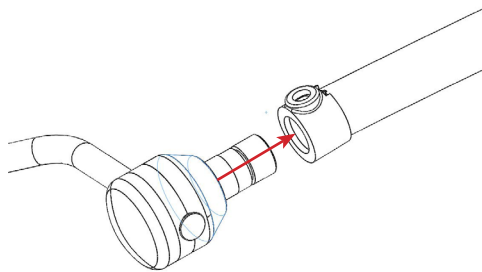

FIGURE 2.30 - Insert Light Head
STEP 4: Slide the light head into the arm, aligning the slot in the light head assembly with the arm slot. Refer to FIGURE 2.30